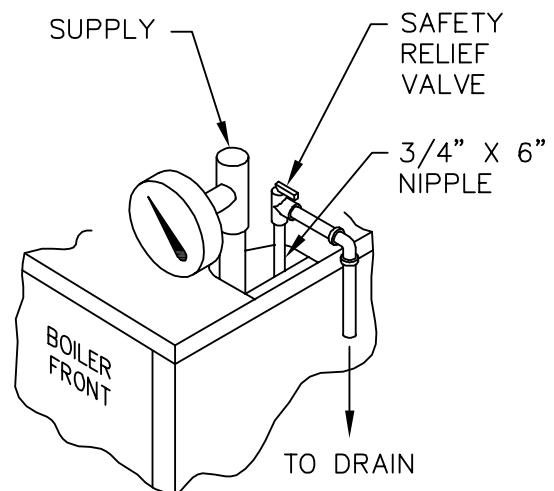

Figure 3.5: Safety Relief Valve Installation
2. Install safety relief valve in 3/4 NPT tapping behind supply tapping. Safety relief valve must be installed with spindle in vertical position. See Figure 3.5.